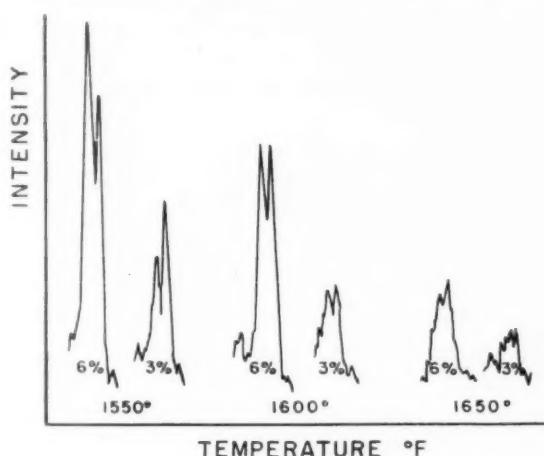
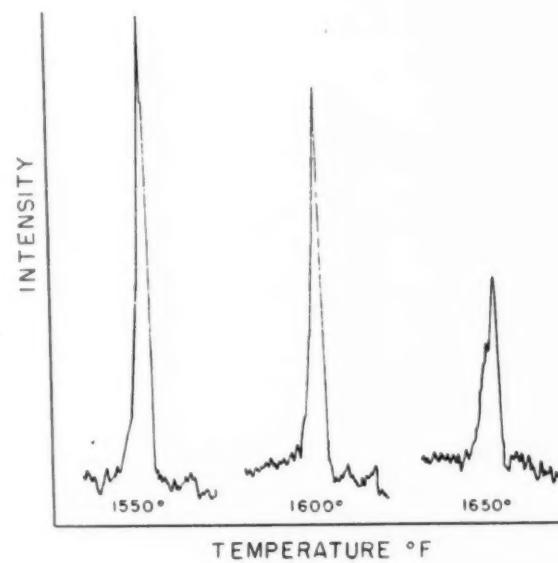

Figure 2—Effect of temperature on solubility of 6% Keystone feldspar in frit A.
Figure 3—Effect of temperature on solubility of 6% nepheline syenite in frit A.
Material saving can often be effected by bending crescent and similarly shaped blanks from straight strips in an edgewise bending die, instead of producing their contours by blanking (**Drawing B**). Depending upon the blank, it may be bent directly to shape, as shown in Figure 1; or to an approximate shape first, and later trimmed, as shown in Figure 2. When a strip of metal is bent edgewise, the outer portion of the blank is stretched while the inner portion is compressed. There is a tendency to pull the metal apart on the outer rim. This causes the stock to thin out considerably and often split. Since there is an excess of metal in the inner portion of the blank, the metal tends to thicken and wrinkle as shown in Figure 3. Strips with mill edges should be used to avoid splitting if the blank is to be edge-bent through a considerable distance. Blanks with sheared edges can only be bent through a limited distance.
A die that compensates for the variation in thickness between sheets, and also edge-bends blanks with a uniform thickness, is shown in **Drawing D**. Dies of this type are used to bend side members for automobile frames and web members for automobile brakes (Figures 2 and 4, **Drawing B**). The die consists of a specially designed die holder shown at A, die members B and C, punch holder D, punch members E and F, spring G, and wear plate H. Screws, dowel pins, and gages are not shown. The operation of the die is as follows: The blank is placed in the die in the position indicated by dotted lines. When the slide descends, punch member F contacts the blank and squeezes it tightly against die member B. Continued descent of the slide forces punch member F sidewise. Punch member F holds the blank firmly against the die while the step machined at the back of the punch bends the strip. When the slide ascends, spring G returns punch member F to its normal position.
1. *Effect of composition:* The influence of frit compositions was clearly illustrated by comparing the weight intensities of the feldspar and alpha quartz peaks of enamels A5 and B2. (See Figures 2 and 4.) The intensities were similar at 1600° F. and 1200° F. respectively; hence, the quantities of the crystalline phases present were approximately equal even though the difference in firing temperature was 400° F.
2. *Effect of firing temperatures:* The decrease of the weight intensities in the diffraction patterns of the crystalline phases indicated gradual solution of the Keystone feldspar and nepheline syenite as the temperature was increased. (Illustrated in Figures 2, 3, and 4). The rate of solution was not relatively greater for Keystone feldspar than for nepheline syenite. This is true for an enamel of composition A from 1550° F. to 1650° F.; however, to the contrary, nepheline has been reported to be less refractory than feldspar.5